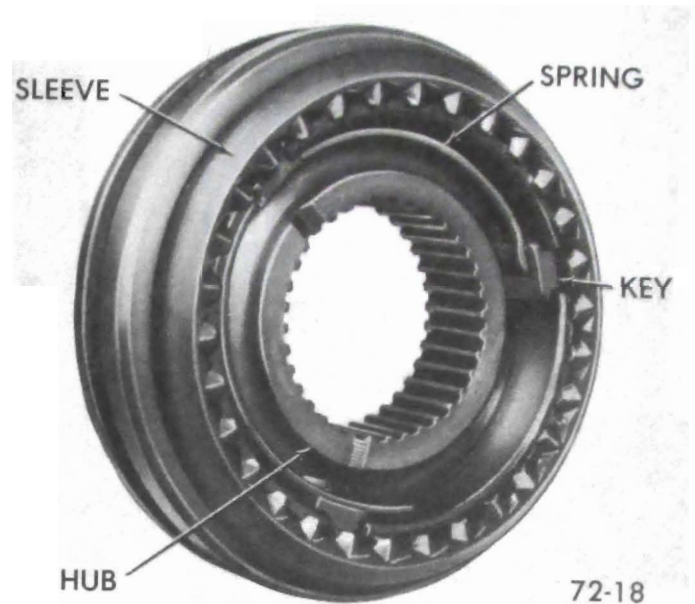

Figure 72-16 - Synchronizer Assembly
- b. Remove sliding sleeve from synchronizer hub. Remove keys and springs from the hub. See Figure 72-16.
- c. Place the three (3) keys and two springs in position (one on each side of hub) so all three (3) keys are engaged by both springs. See Figure 72-16.